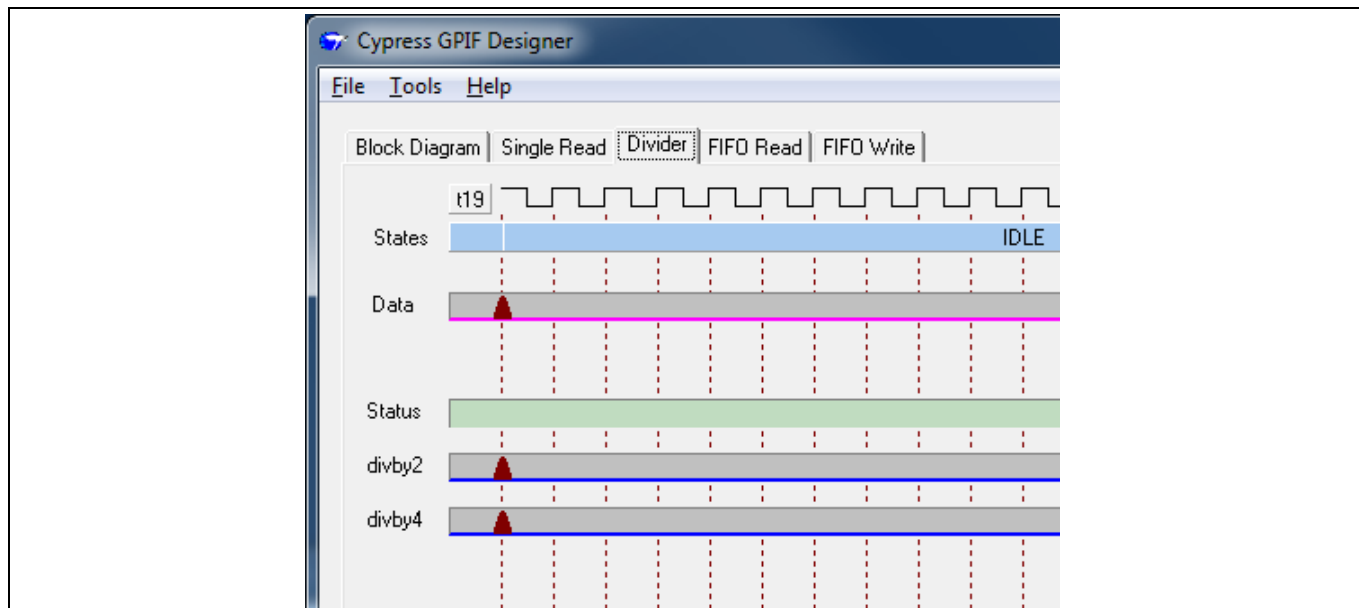

Figure 15 Blank Waveform Editor Screen
8. Select the **Single Write** tab, which is used to draw the two waveforms. Right-click on the tab name, select **Select Tab Label** and rename it as **Divider**. You will see a blank waveform editing screen, as shown in Figure 15.